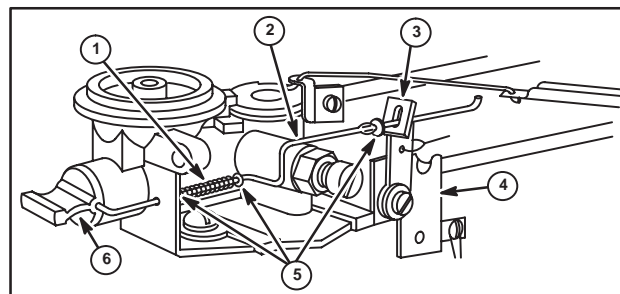

Fig. 72
1. To remove choke link (2), remove speed adjustment lever (3) and stop switch insulator plate (4).
3. Then pull out choke link through hole in choke slide (6), Fig. 72.